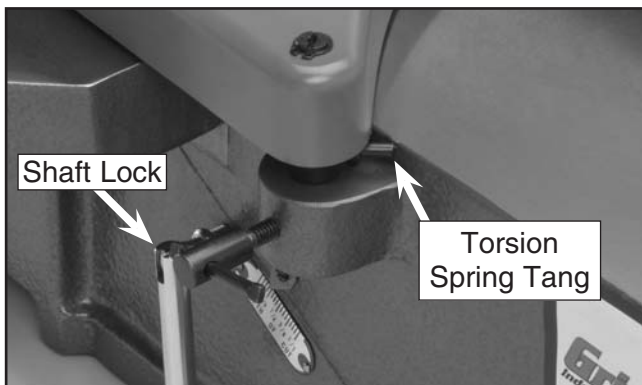

Figure 11. Guard mounted with spring tang in the correct position for proper return tension.
1. Wind the tang on the torsion spring back a half turn, and slide the guard shaft into the casting so the spring tang points to the right and rests against the casting, as shown in **Figure 11**.